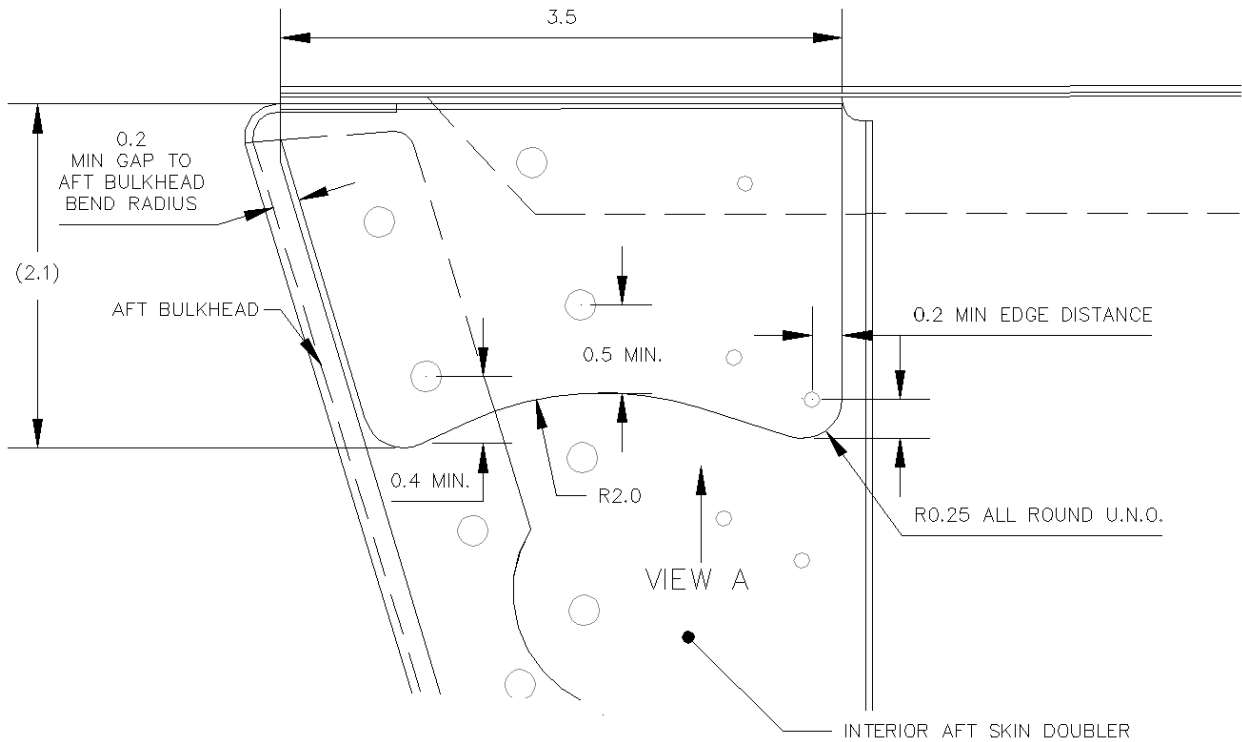

Figure 13 – Doubler Dimensions
- Fabricate a doubler from 0.032" thick 2024-T3 aluminium per SAE-AMS-QQ-A-250/5 to the dimensions in Figure 13. Ensure a minimum internal bend radius of at least 0.125" is achieved and deburr or break all sharp edges.
- Temporarily locate doubler in position shown in Figure 13 and match drill fastener hole locations and diameters from Tailcone Skins.